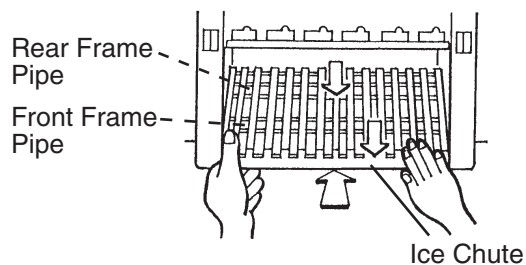

Fig. 36
13) Position and lock the ice chute onto the front and rear frame pipes by pushing the ice chute down until it clicks onto both frame pipes. See Fig. 36.